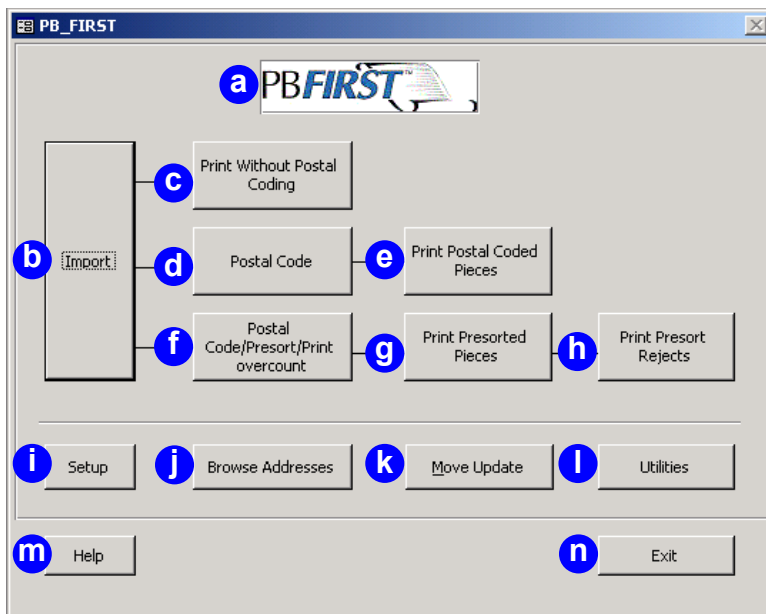

Figure 2-7
Table 2-1 Description of PB FIRST Main Menu (Figure 2-7)
1. Click **Setup** in the PB FIRST main menu (Figure 2-7) to display the Advanced User Setup dialog box (Figure 2-8).